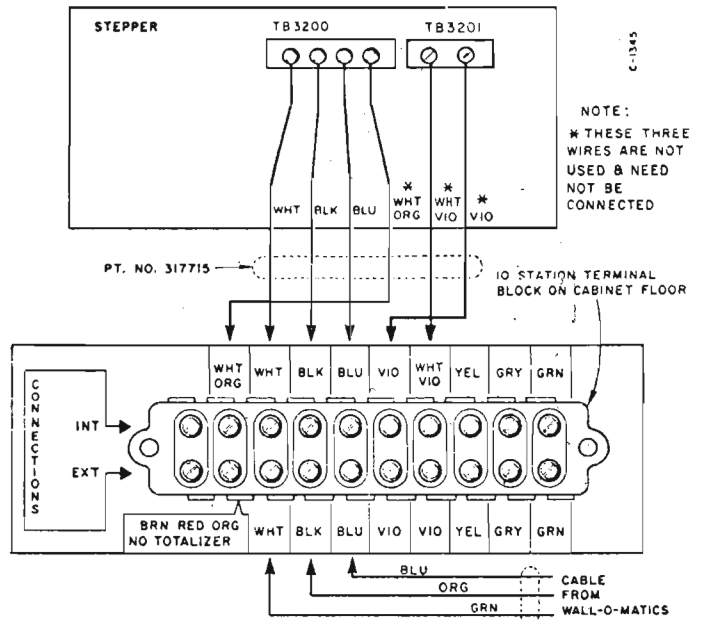

Figure 3. Stepper and Wall-O-Matic Connections.
4. Install the 10-Station Terminal Block, (Part No. 487803) and Terminal Block Label (Part No. 317716) on the cabinet wall as shown in Figure 3. Use two No. 8 x 1 inch sheet metal screws (Part No. 960969).